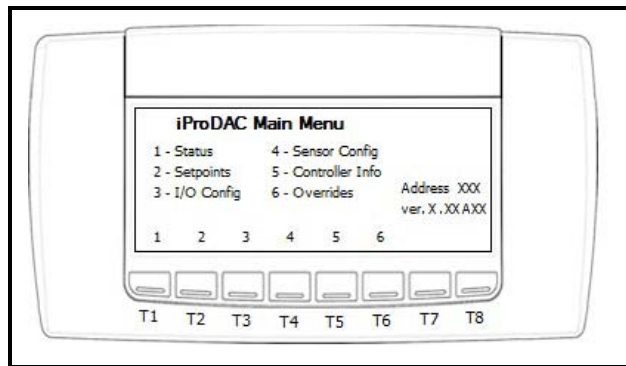

Figure 3-4 - Main Menu - Press 5 to Set Address
- Shows current Modbus address and application version (see **Figure 3-4**).